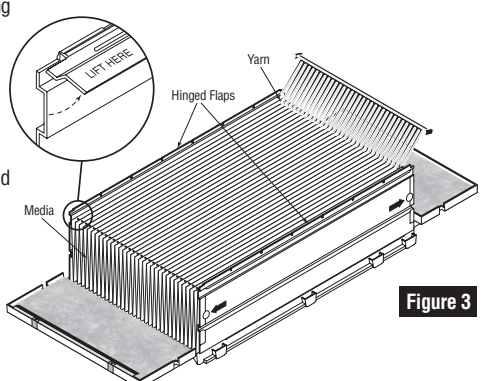

Figure 3
**Step 6:** Open both hinged flaps by lifting along entire edge labeled "Lift here" (see Figure 3).
**Step 11:** With the media pleats evenly spaced, rest the first pleat spacer on the yarn at either end, then carefully insert one pleat spacer finger into each pleat (see Figure 3).